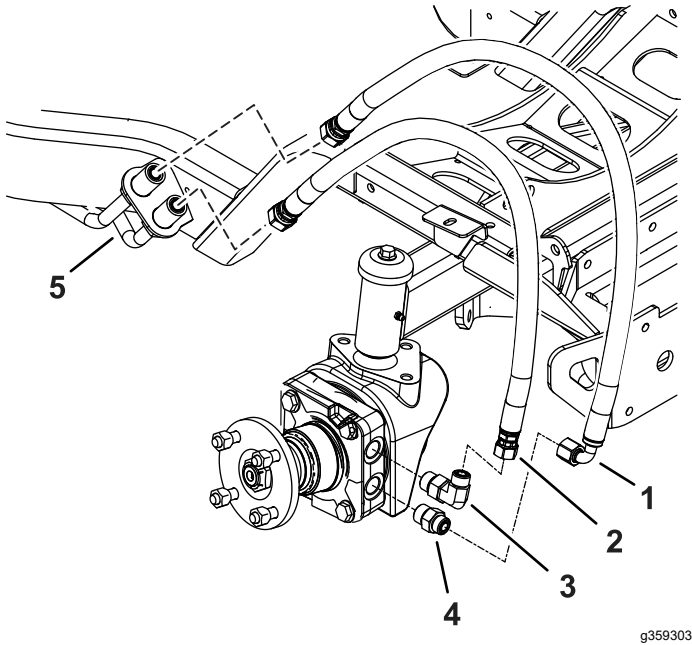

Figure 11
3. Install the new straight fitting and the 90° elbow fitting to the wheel motor (Figure 11).
6. Install the hose with straight fittings onto the 90° elbow fitting (Figure 11).
7. Install the hose with the 90° elbow to the straight fitting (Figure 11).
16. Remove one cap at a time and install the correct hose to the hydraulic line as shown in Figure 11.
17. Remove the remaining cap and install the hose to the hydraulic line (Figure 11).